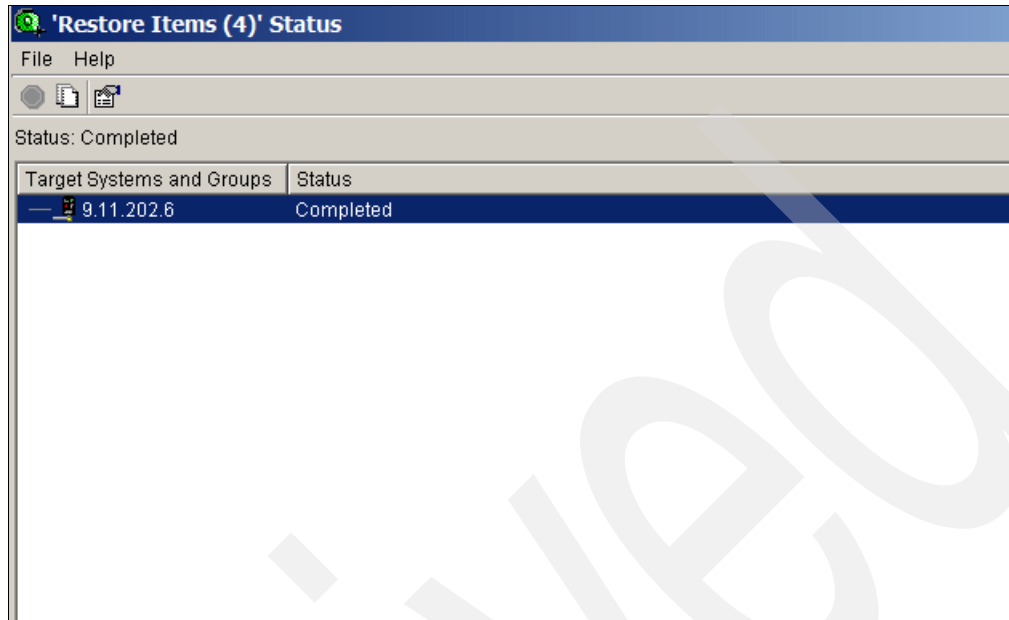

Figure 6-44 Restore complete
8. When the restore is completed, the status window shows *Status Completed*, as can be seen in Figure 6-44.